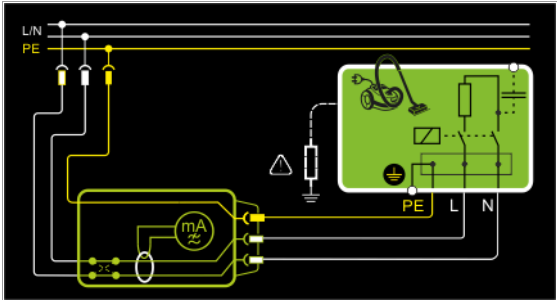

Figure 2/3: The DUT is operated with line voltage. Differential current is measured between mains conductors L and N (current clip concept).
- ⇒ Connect the DUT's mains plug (protection class I) to the test instrument's test socket (see figures 2/4 and 3/4).